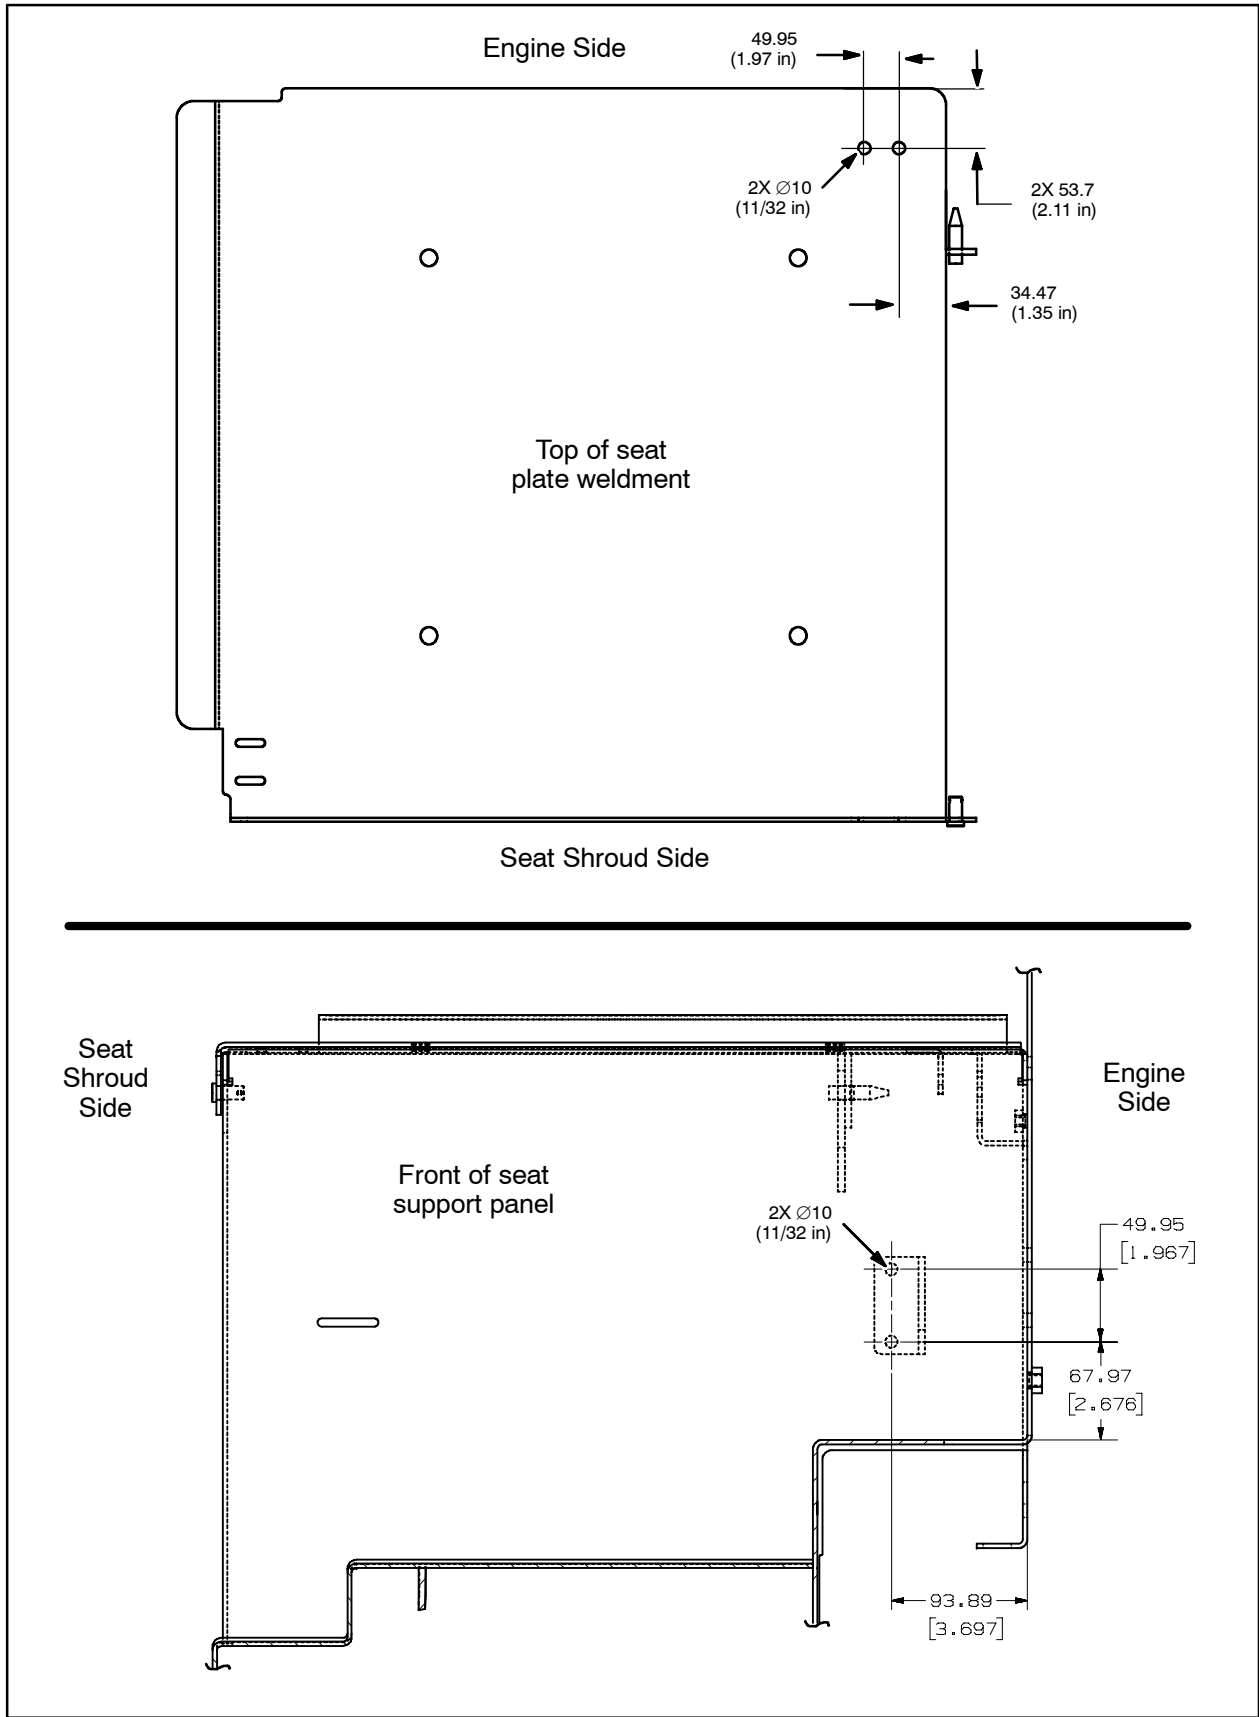

FIG. 5
1. Drill two 11/32" through the front of the seat support panel and the insulation behind the support panel. Refer to Fig. 5.
4. Drill two 11/32" through the top of the seat plate and the insulation under the seat plate. Refer to Fig. 5.